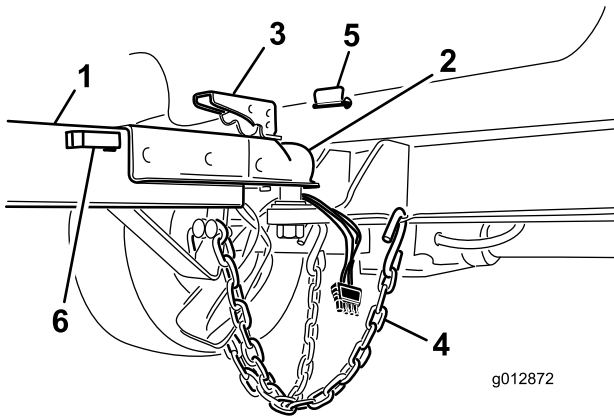

Figure 6
5. Store the harness connector in the hitch tube holster (Figure 6).
2. Lift the coupler lever on the tongue while lowering the cover over the ball hitch (Figure 6).
4. Install the locking pin to lock the coupler lever (Figure 6).
5. Cross the safety chains and attach them to the holes on the hitch (Figure 6).